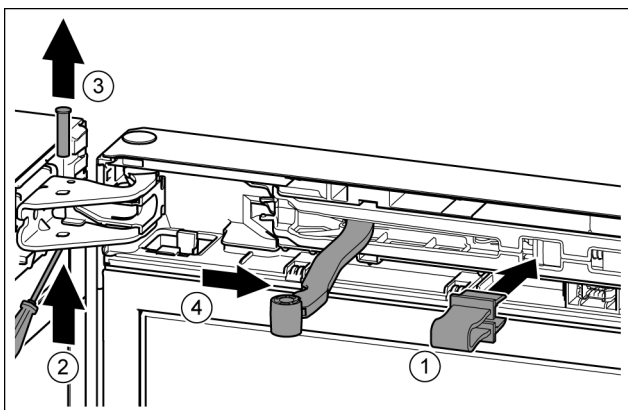

Fig. 13
- ▶ Engage the locking device in the opening. Fig. 13 (1)
- ▶ Unscrew the bolt with a screwdriver. Fig. 13 (2)
- ▶ Remove the bolt in an upward direction. Fig. 13 (3)
- ▶ Turn the hinge in the direction of the door. Fig. 13 (4)